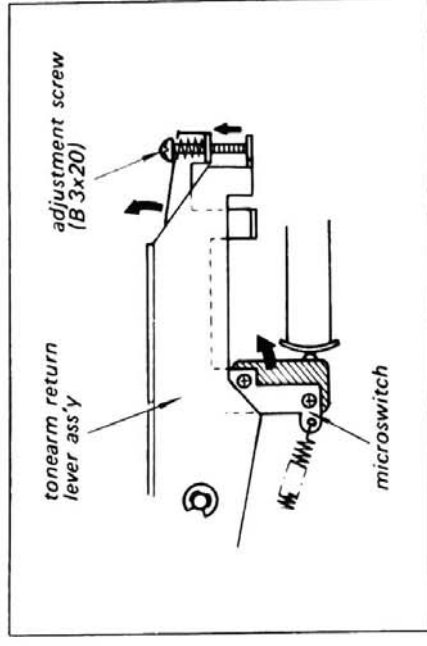

Fig. 3-8. Microswitch position adjustment
2. Set the microswitch to "OFF" by turning the adjustment screw shown in Fig. 3-8.